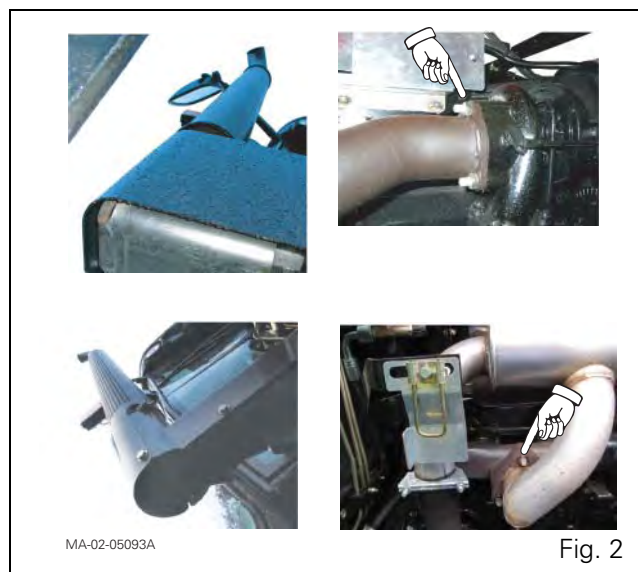

Fig. 2
7. If necessary, remove the vertical exhaust assembly (including support) (Fig. 2).